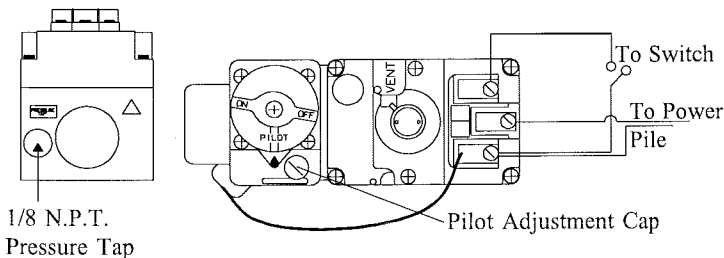

FIGURE 6. GAS CONTROL VALVE
The gas control valve is located behind the grille in the centre of the fireplace (see Figure 6 below). Before lighting the pilot, make sure that the gas line is connected and the gas shut-off valve is turned to the ON position.
1. Remove Pilot Adjustment Cap (see figure 6).
Have the fireplace installation inspected yearly, including a visual check of the vent system, the burner and the pilot flame. For your convenience a 1/8" pressure tap is supplied on the gas valve for a test gauge connection. See Figure 6. This appliance requires a minimum gas pressure of 7" W.C. for natural gas. Always keep the fireplace area clear and free of combustible materials, as well as gasoline and other flammable vapours and liquids. Use a vacuum cleaner or whisk broom to keep the control compartment, burner, and firebox free from dust and lint. Logs may be cleaned periodically with soap and water to remove soot and other contamination.
Pilot won't ignite	Disconnect remote wires and try to light pilot. If pilot now works, remote connections are faulty. Check wiring diagram figure 6.